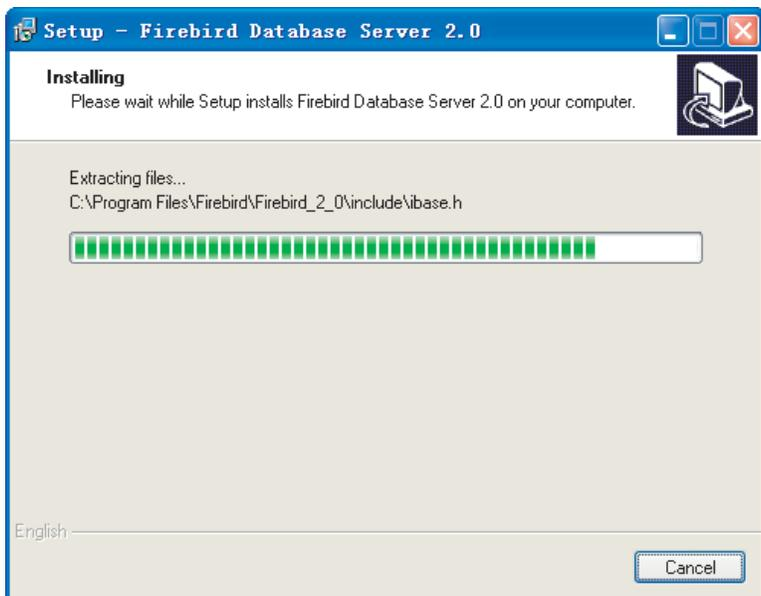
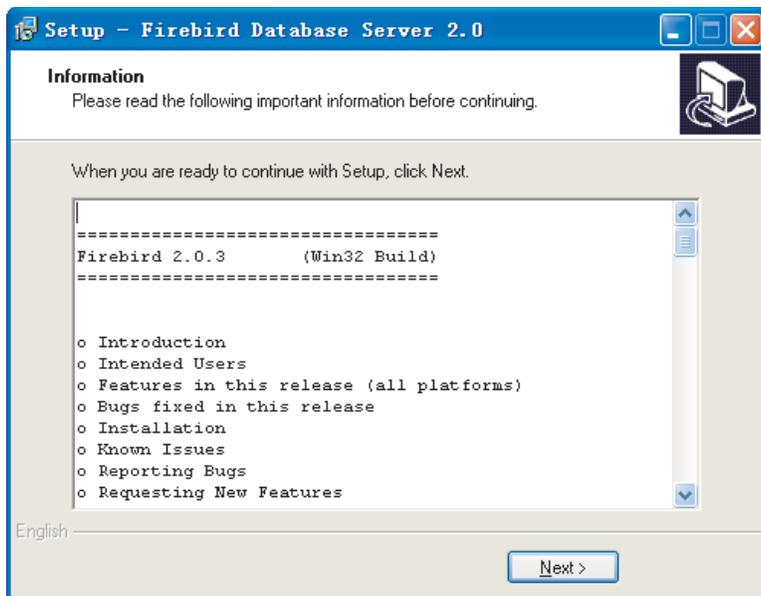

Fig. 2-11
Fig. 2-12
10) Installation window as Fig. 2-11, until the window as Fig. 2-12 displays, and then click “Next” to continue the installation: